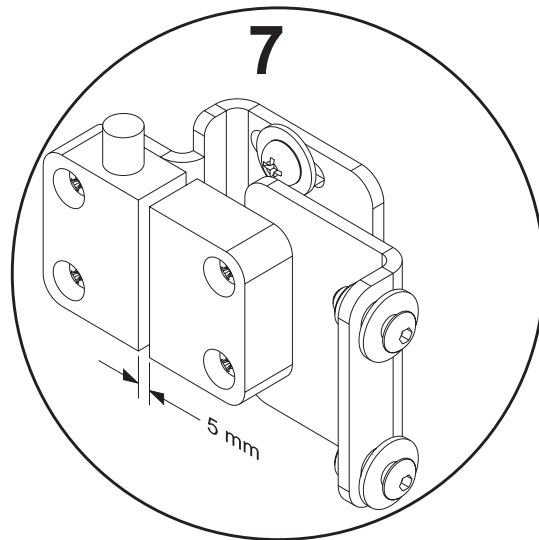

Figure 4
5. Adjust between 0-5 mm space. Refer to *Figure 4*.